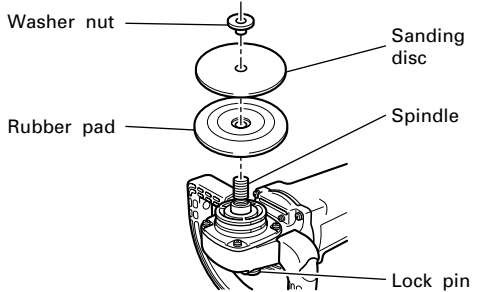

Fig. 4
1. For Sander operation (Fig. 4)